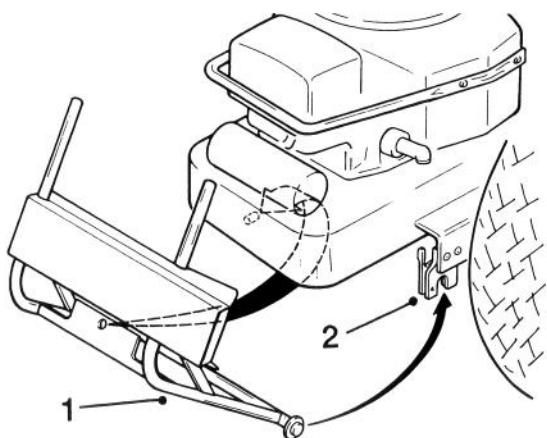

Figure 19
2. Find the pilot pin on the back end of the rider (in the center on the inside of the rider frame) and slide the hole in the center of the quick-attach bracket onto the pin (Fig. 19).
- Pull back on the quick-attach bracket until the bottom ends slide into the notches on the side of the rider frame (Fig. 19).